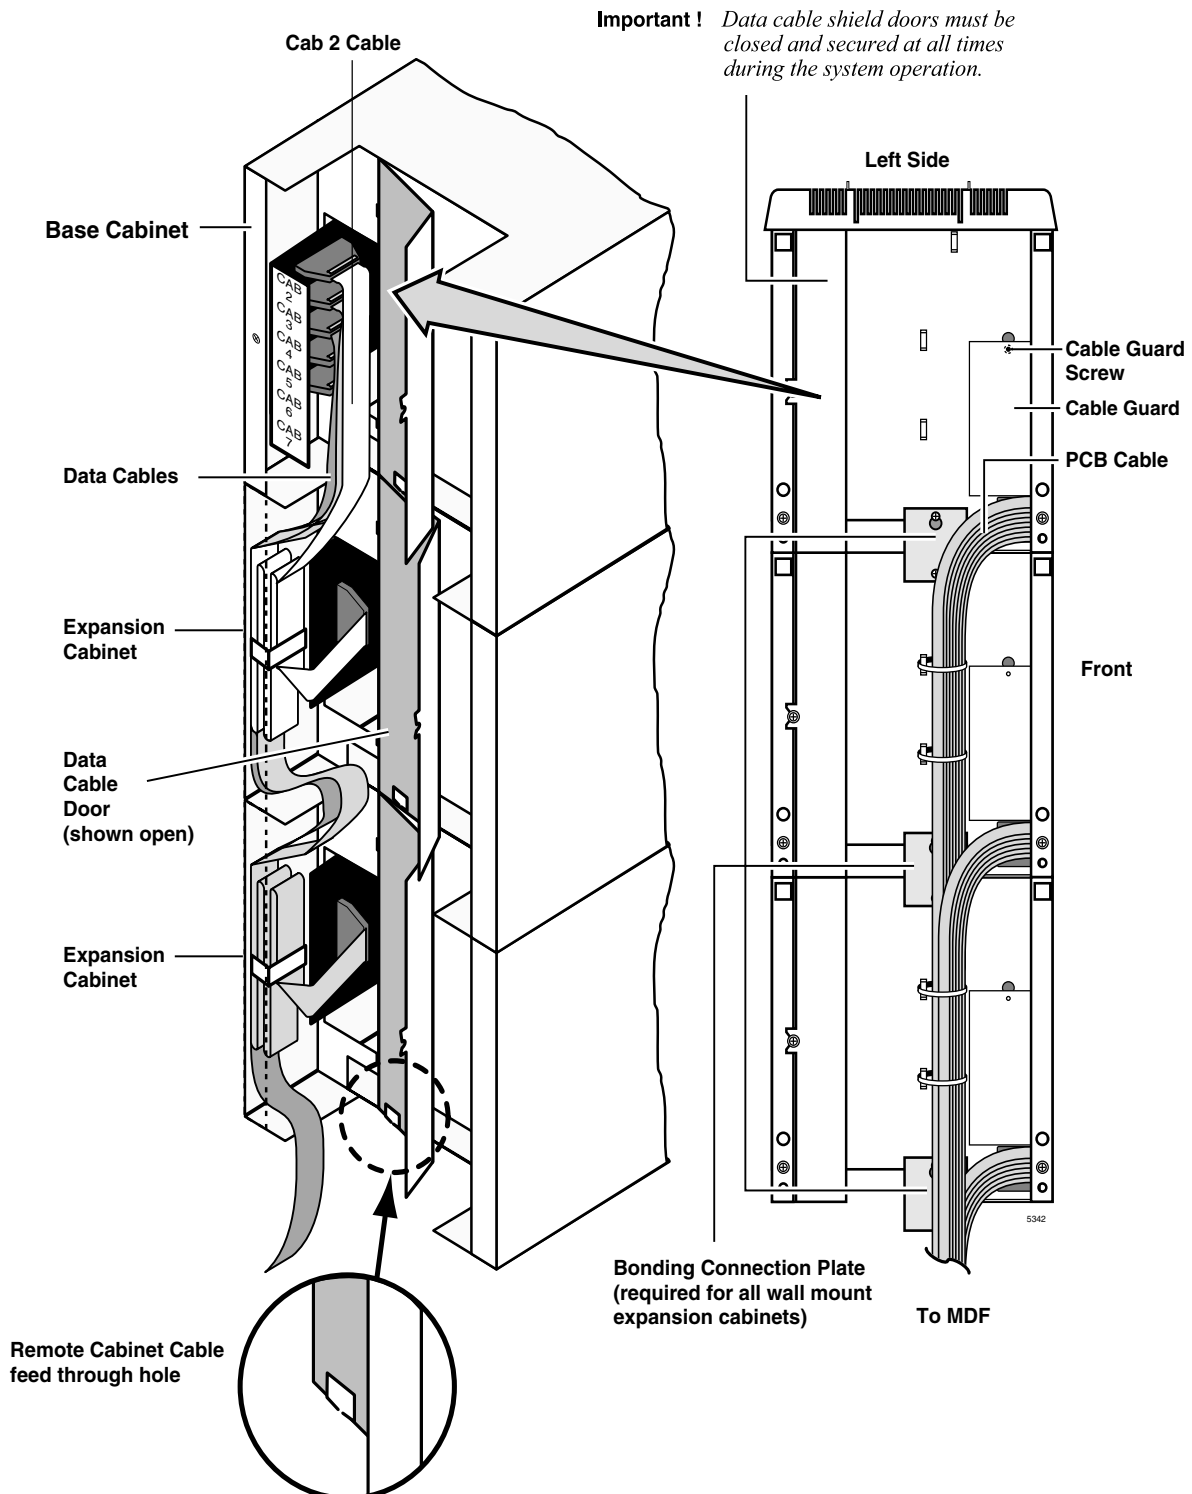
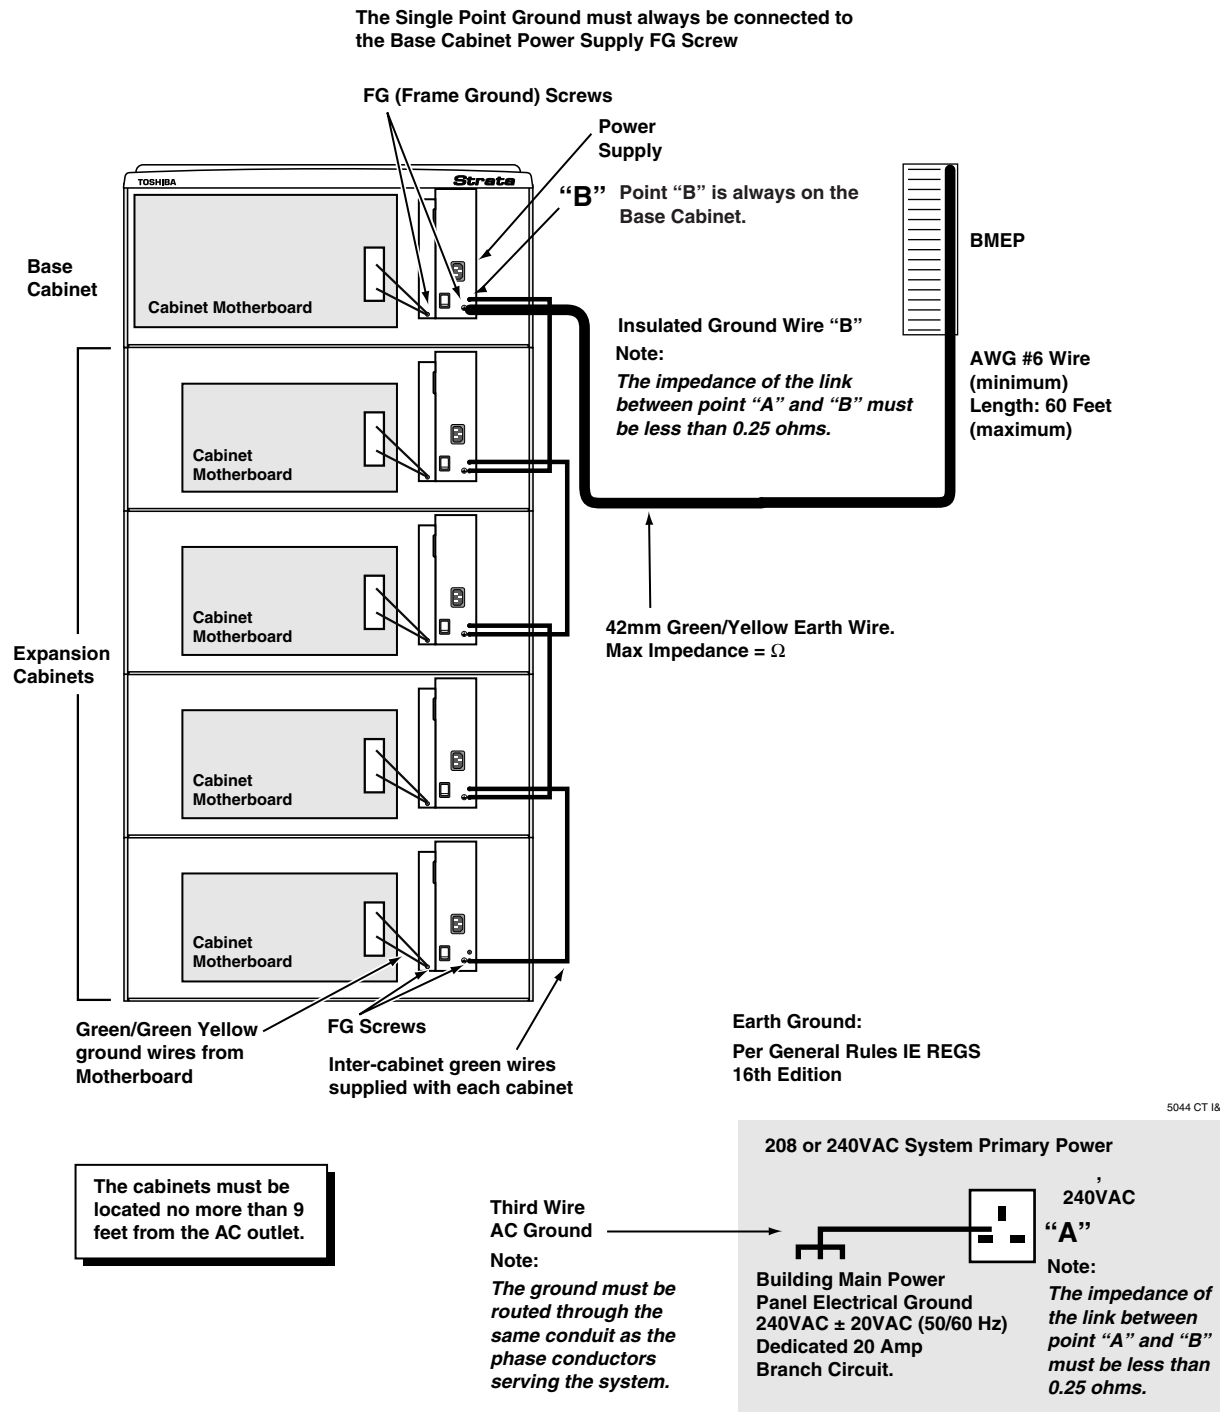

Figure 3-9 Data Cables Shown in Cabinet Interior—Side View
Figure 3-11 Cabinet Earthing
5. Loosen the bonding connection plates fastened on both sides of the first Expansion Cabinet (see Figure 3-9) then fasten the plates between the Base Cabinet and the first Expansion Cabinet. Repeat to connect the first Expansion Cabinet to the second Expansion Cabinet, etc.
1. After mounting the CTX670 cabinets, install the data cables. Then, install the bonding plate per Figure 3-9.
The system requires a solid earth ground for proper operation and safety. The AC power cord(s) already contains a conductor for the “third wire ground” provided by the commercial power outlet (see Figure 3-11, for grounding points “A” and “B”). An insulated conductor must connect the frame ground terminal on the Base Cabinet to a cold water pipe or the building ground (point “B”).
Before connecting the system to the AC power source, measure the impedance of the building ground reference. If the ground path connected to the system has an impedance of 1 ohm or more, a better ground must be installed. In Figure 3-11, the grounding path between point “A” and the single point ground “B” must be less than 0.25 ohms.
If the CTX670 system consists of more than one cabinet, you must install the bonding connection plates that come attached to each expansion cabinet. Refer to Figure 3-9. Connect the mother board ground wires and the intercabinet ground wires per Figure 3-11.
6. Connect the Expansion Cabinet data cable to the “CAB. 2” data cable connector on the Base Cabinet (Figures 3-9).